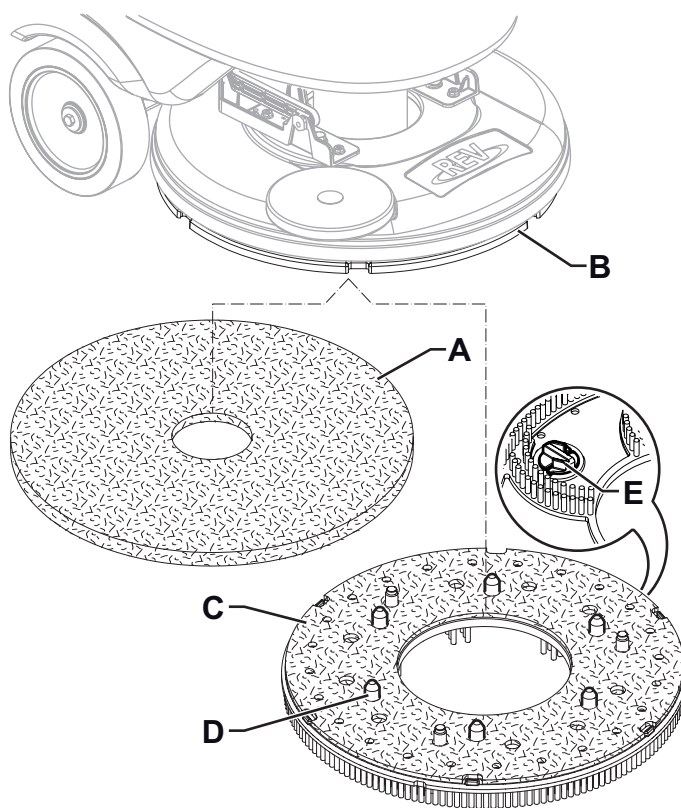

Figure 3
1. Make sure that the REV deck (37) is lifted.
2. Turn off the machine with the push-button (42) and remove the user key (51).
3. According to the kind of cleaning to be performed, install the pad (A, Fig. 3) or the brush (C, optional) and note the following:
- Place the pad (A) under the deck and press it until it is fastened with the Velcro of the drive disc (B).
- Place the brush (C, optional) under the deck, and then match the centering pins (D) to the respective holes of the drive disc (B), and then engage the brush with the three mounting screws (E).